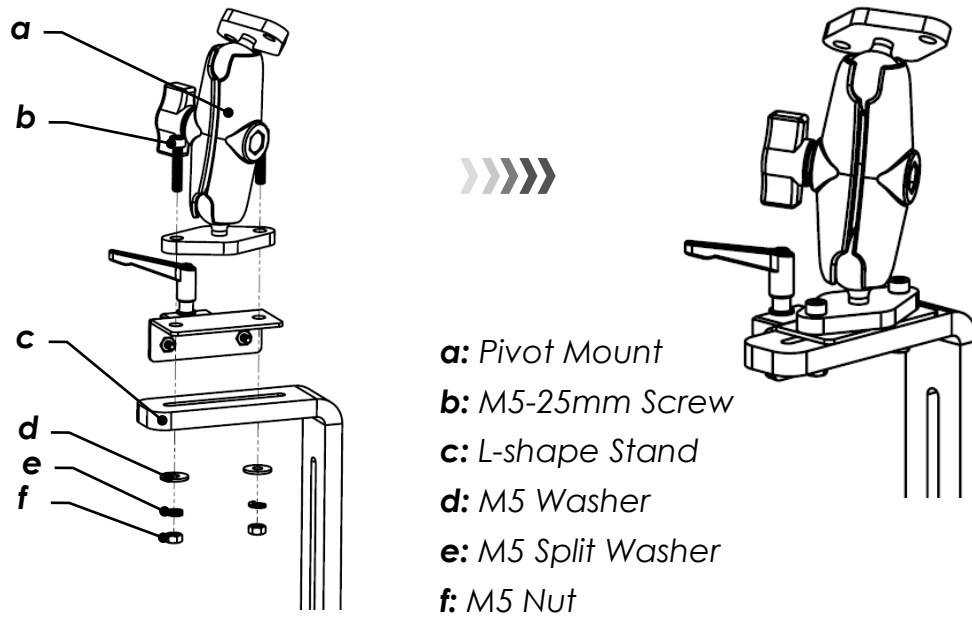

Figure 7
- Place the rod mount assembly between pivot mount base and L-shape stand. Align the pre-drilled holes on pivot mount with the holes on rod mount assembly and fix them all together by two sets of M5 (screw + nut) as shown in Figure 7.